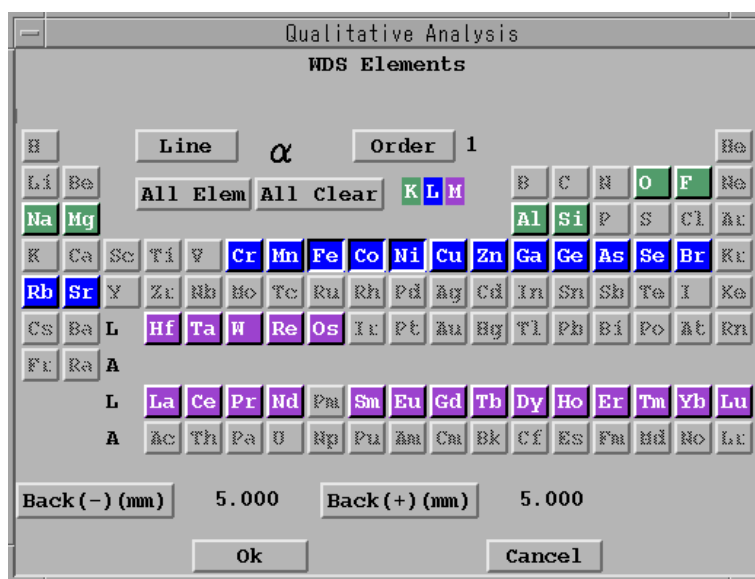

Fig. 6 WDS Elements window
1. Click on any one of the **Elem-1, -2, ...** buttons in the Spectrometer Condition window to display the WDS Elements window (Fig. 6).